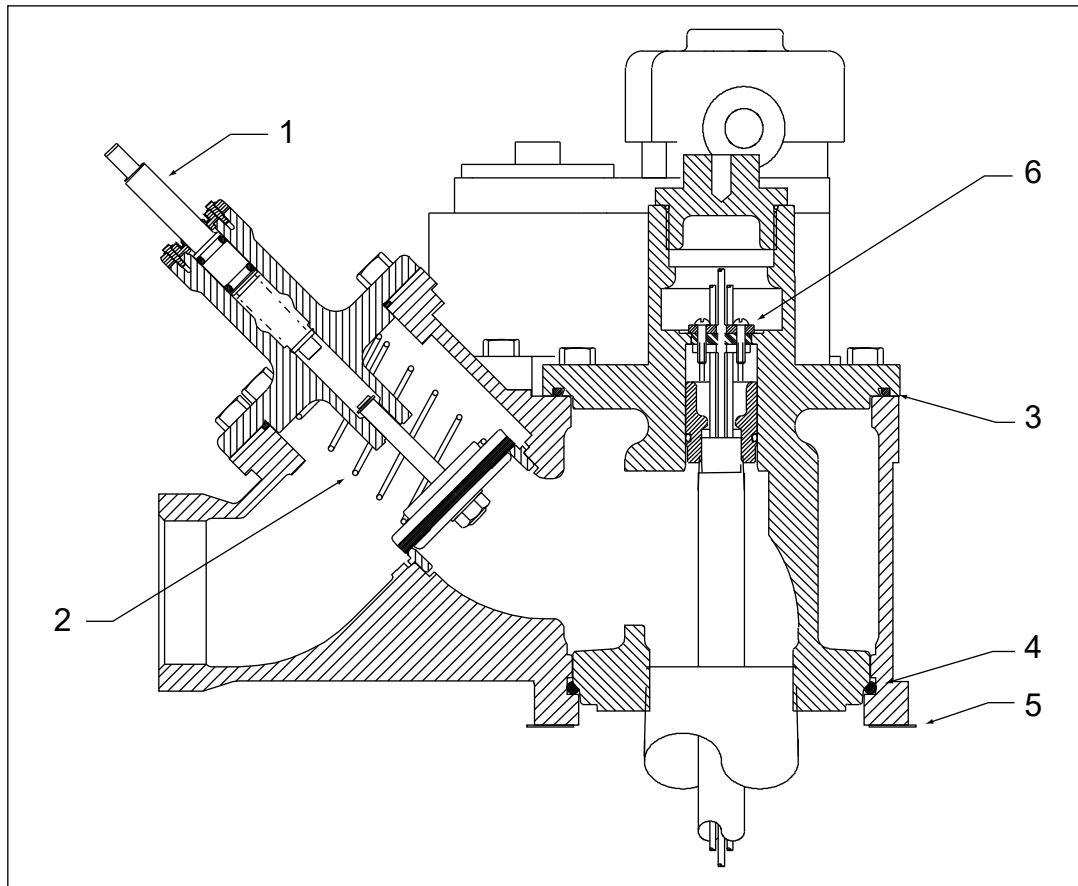

Figure 24. Check Valve and Electrical Bushing Assembly
28. Replace the lower o-ring (see Figure 24, Item #4) in the packer manifold and the one in the lower face of the Extracta head (see Figure 24, Item #3).